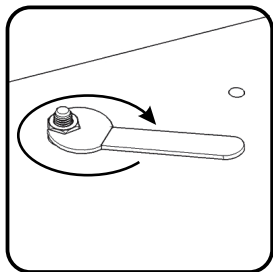

Figure 1
Attach Panel (B) to Pedestal (C) with Flat Washers (large), Spring Washers (large) and Nuts. (See Figure 1)